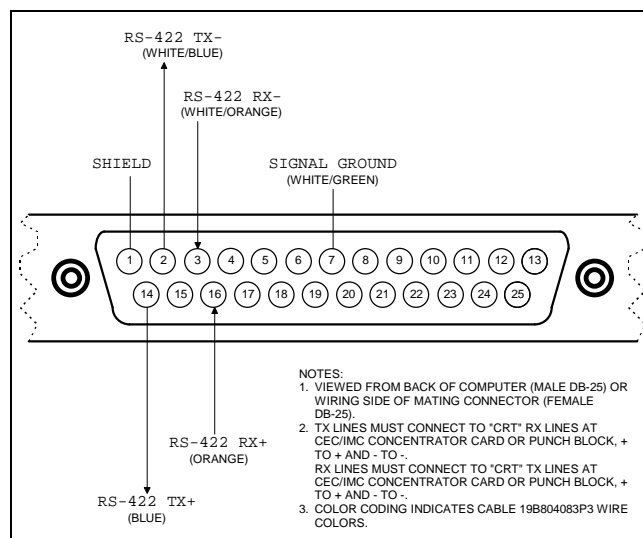

Figure 4 – Plug-In RS-422 Board DB-25 Connector Pin-Out (B&B Electronics 3PXOCC1A Board)
- ❑ If cable 19B802083P3 is *not used* but RS-422 hook-ups are required, see Figures 4 (or 5) and 7A and/or the manufacturer's documentation for COM port connector pin-out details. Fabricate a cable as required and then use it to interconnect the C3 Maestro's RS-422 control data COM port to the appropriate CEC/IMC Data Concentrator Card as required. Shielded cabling is recommended. Per RS-422 specifications, cable length should be limited to 4000 feet (1219 meters) or less.